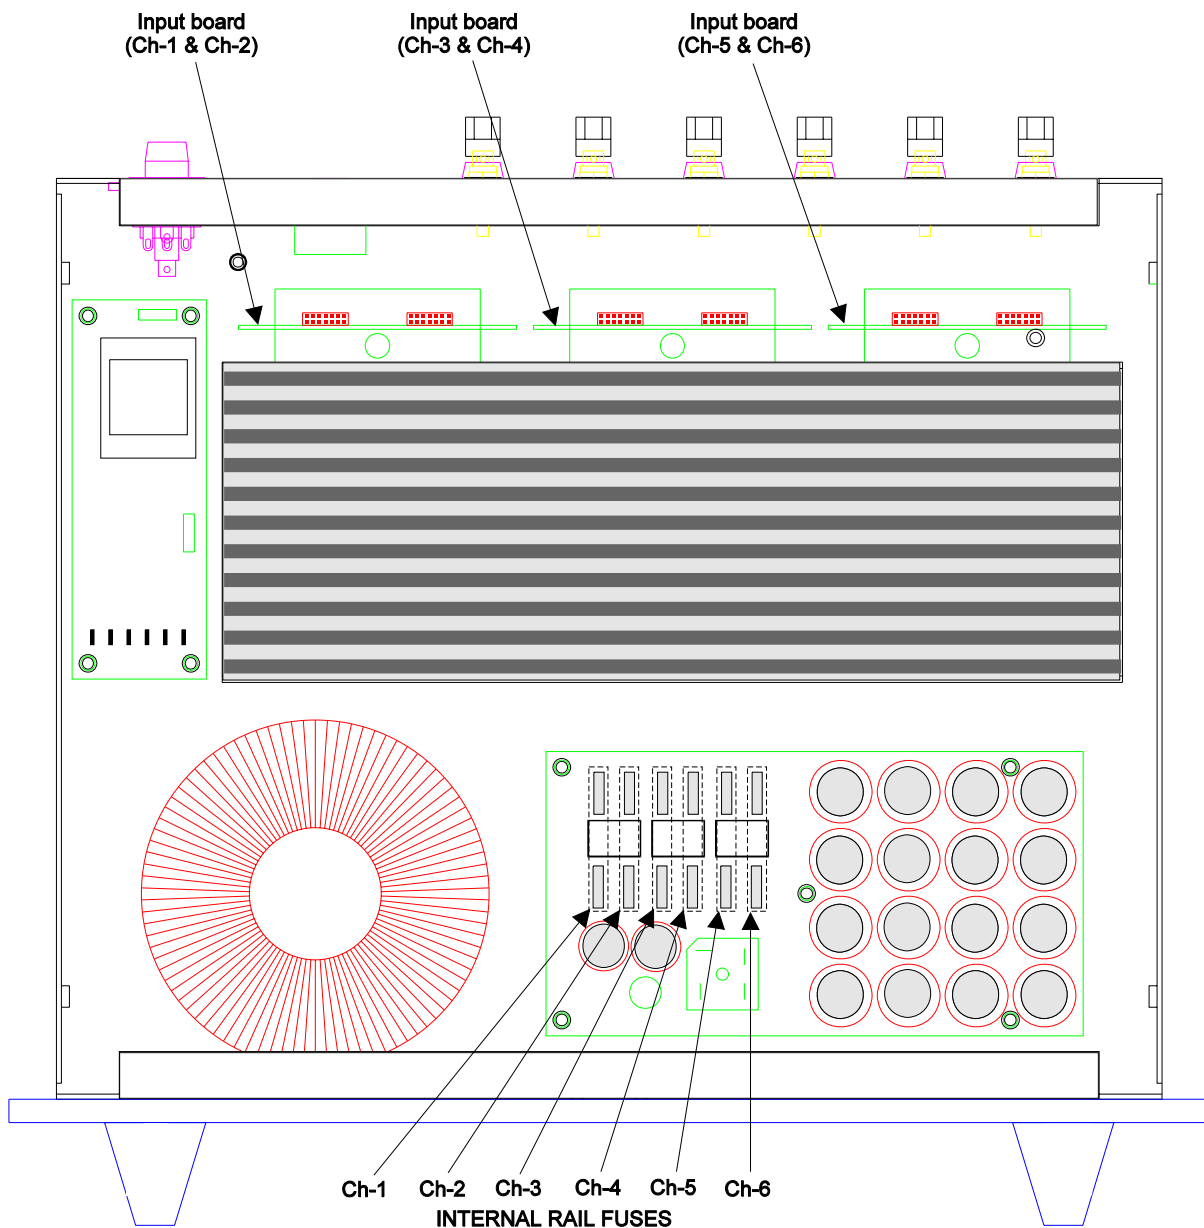

Fig.1 CAV-75 top view
- 3) Locate the input board(s) of channels to be switched. (see fig.1 page 7)
The Classé **CAV-75** is equipped with rail fuses to protect the output drivers (GBD3, 3 amp fast-blow, see fig.1, page 7) which are used as pre-drivers for the output stage of the amplifier. In the event that a short circuit or other problems would occur at the output of the amplifier, either of these fuses may blow in an attempt to protect the amplifier.